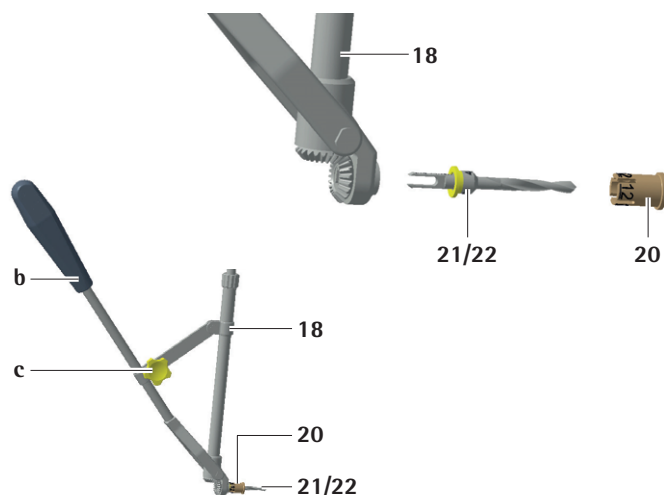

Fig. 5
- ▶ Attach the drill bit 21/22 of the chosen size to the angled gear instrument, see Fig. 5. Forceps can be used. Make sure the drill bit is fully inserted.
- ▶ Adapt the angle of the handle b to optimize the transmitted force, see Fig. 5: